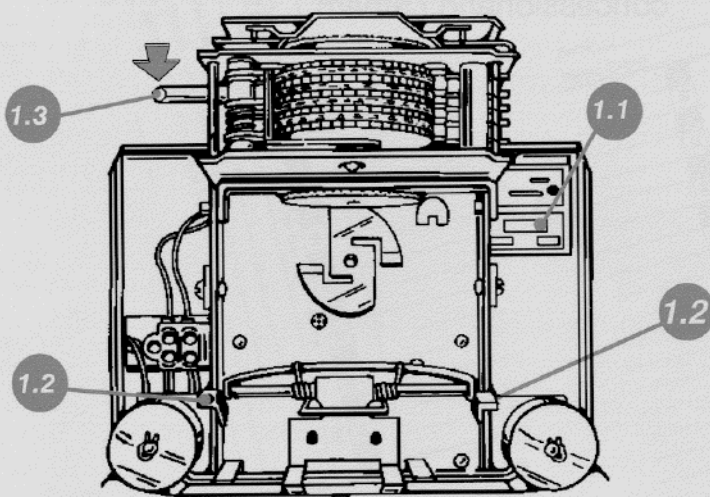

Figure 1
The model number is located on the label **1.1** positioned as shown in Figure 1.
3. Hold the head lock **1.2** down, grab the bottom of the dial face and raise the type section to a locked position, as shown in Figure 1.